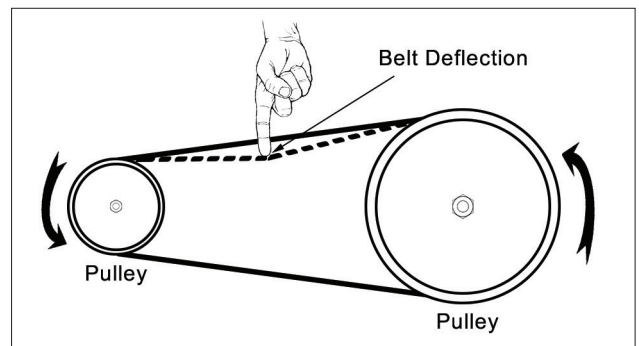

FIG. 30
3. Position the frame so the tension on the V-belt is about 1/4" to 1/2" deflection when moderate pressure is applied to the belt. FIG. 30.